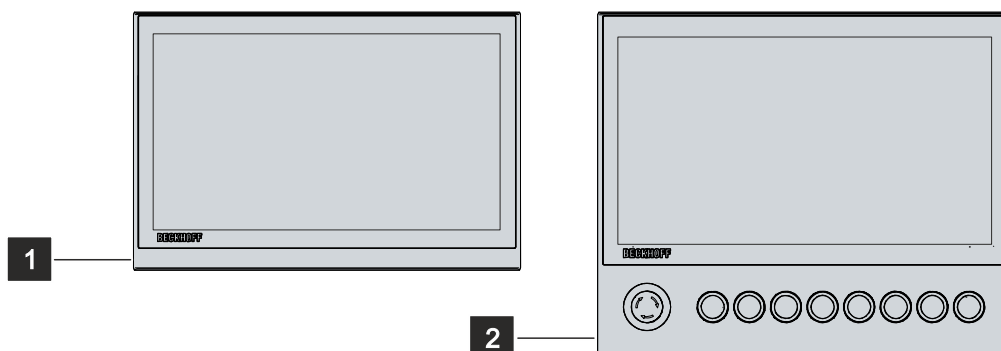

Fig. 1: CP29xx_without and with push button extension
Explanations of the push button extension and the functions can be found in the installation and operating instructions for the C9900-G0xx. Figure 1 shows an example of a control panel without (1) and with (2) push button extension.